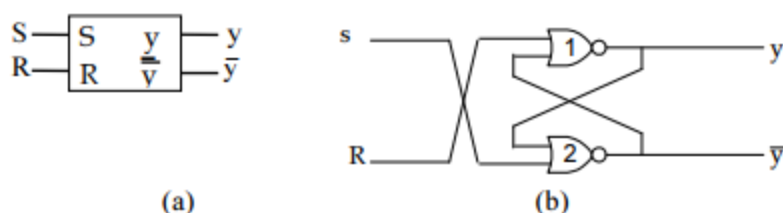

Fig. 3.6(a) : Symbol of S-R FF. Fig. 3.6(b) : S-R FF using NOR gate.
The following Fig. 3.6(a) is known as S-R flip-flop. The circuit as two input Set (S) and Reset (R) and two outputs. As the starting point, assume that $S=0$, $R=0$ and $y=0$. The input to the gate 2 are $R=0$, $\bar{y}=0$, so output $y = 1$. The inputs to gate 1 are $S=0$, $\bar{y}=1$, which has the output $\bar{y}=0$. Now the state of the circuit is internally consistent and remains stable as long as $S=R=0$.
At time t_1 , if S goes to 1 i.e. inputs to the gate 2 are $S=1$, $y=0$, then after a delay of Δt_2 , the output of gate 2 will $\bar{y}=0$. At this point, the input to the gate 1 become $R=0$, $\bar{y}=0$ and after another delay Δt_1 , the output of gate 1 will be $y=1$. This condition is stable and FF is said to be Set. If S goes to 0, the output will remain $y=1$, $\bar{y}=0$ i.e. unchanged. When R goes to 1 and while $S=0$, it forces $y=0$ and $\bar{y}=1$ and the circuit is said to be Reset. So, this flip-flop is called Set (S) Reset (R) flip-flop. The input combination $S=R=1$ is an indeterminate condition which gives $y=\bar{y}=0$ and is not allowed. The S-R FF can be defined with a truth table called transition table for the various input combinations and denoting present state by y and next state by \bar{y} . (Fig. 3.6). An equation describing the relationship for the next state in terms of present inputs and present states of the FF is known as characteristics equation of the FF. The characteristics equation can be got by its K-map (Fig. 3.6(c) using transition table (Fig. 3.6(e)). The equation is